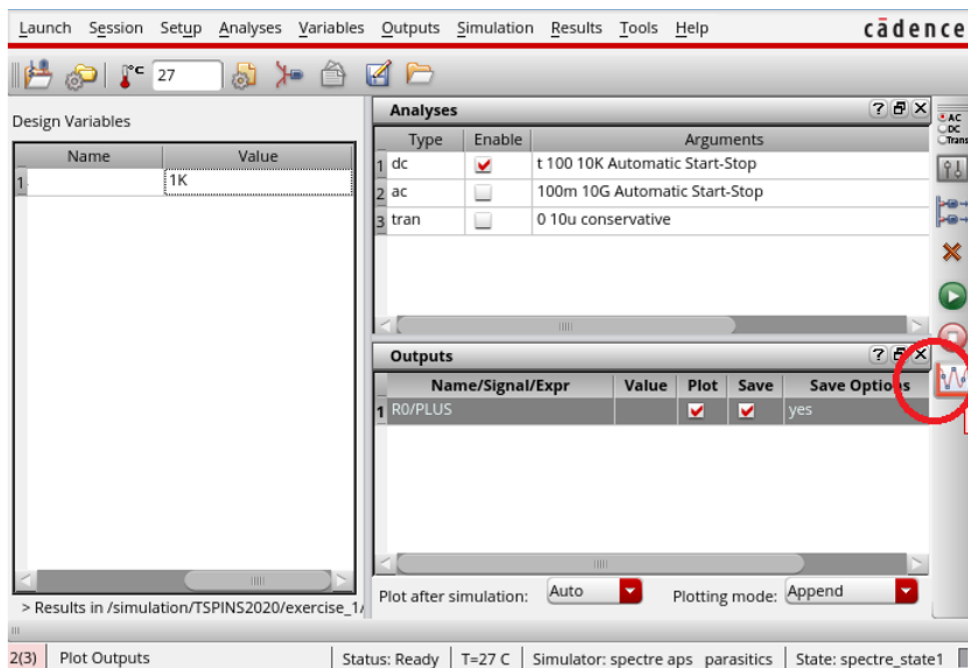

Fig.4 The view method of simulation results
7. Select “**Stimulation**”→“**Netlist and Run**”. After the simulation is completed, in the ADE L window under the “Output” dialog box (lower right box), tick the Plot option, and click on “plot outputs” icon (circled in red) as illustrated in Fig.4. The simulation results will pop up on the main screen. Capture the screen and report what is the value of R_{REF} .